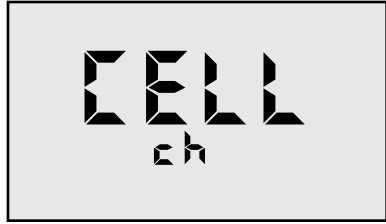

Figure 20
3. Press  repeatedly until you pass the **FAC SEL** location. The display will show a “**CELL ch**” (see Figure 20).